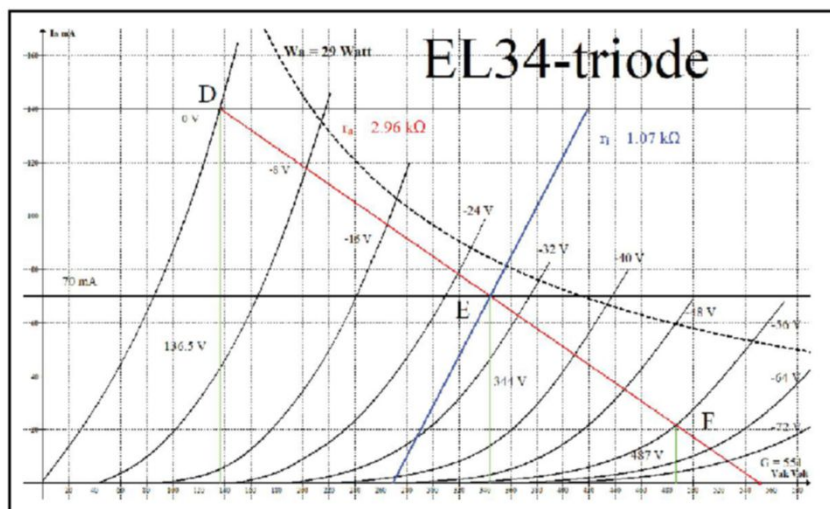

Figure 5: EL34 is shown at 344V and 70mA.
The design shown in **Figure 5** has a lower power consumption. Its $V_a = 344V$. Its $I_0 = 70mA$.
We can now substitute the values found in Figure 5 into Equation (4) and see what we get: